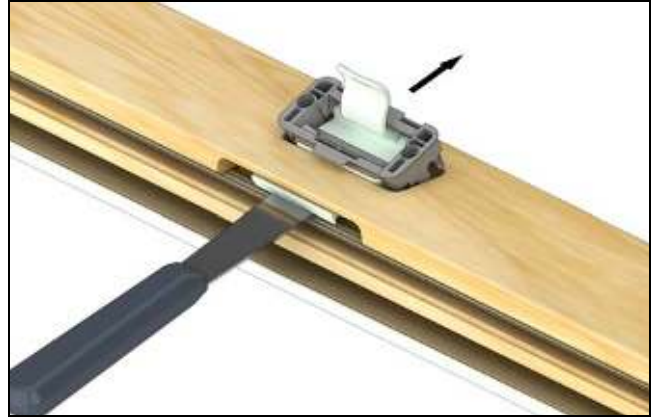

Figure 38
4. Place a putty knife between weather strip and latch. Gently pull Lift Lock at slight angle out of sash route. See Figure 38.